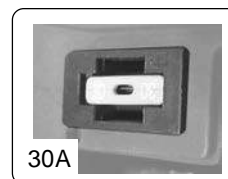

Fig. 43b
- The vehicle features another main protection fuse (30 A) located beside the battery (Fig. 43b). If the main protection fuse blows during use, check how serious the causes are. Then have the vehicle checked by an Authorised RIEJU Service Centre.